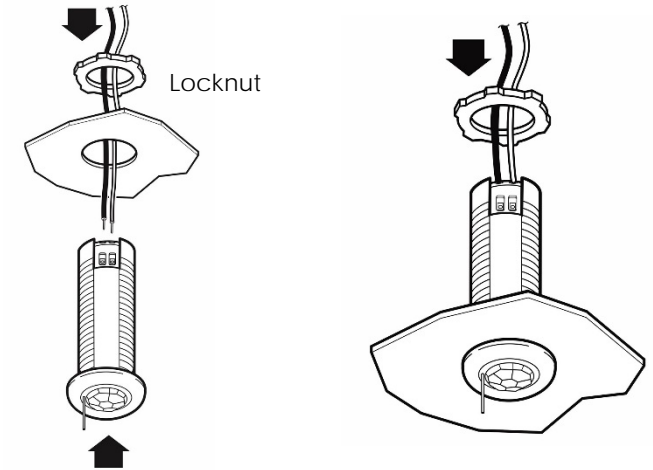

Figure 4: Fixture Mount Sensor
3.	Insert the compact sensor through the hole in the fixture. Use the lock nut from behind the sensor to fasten the compact sensor. See Figure 4.